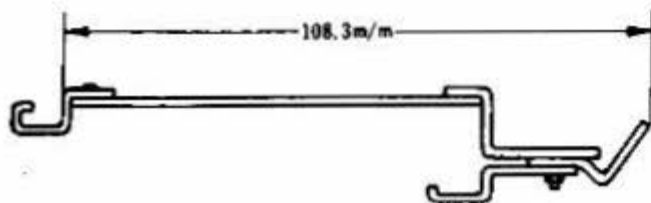

Fig. 35
6. Make fitting measurement of combs for old models of knitters in such a way as shown in Figure 35.